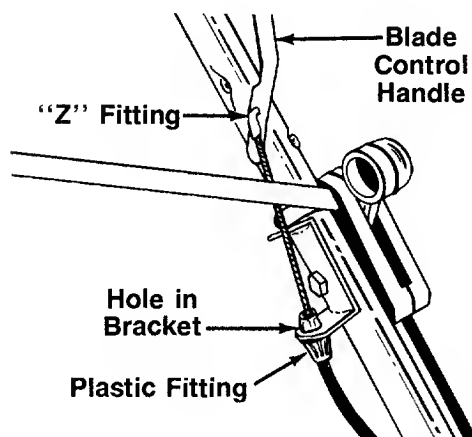

FIGURE 4.
1. The brake cable is attached to the engine, and has a "Z" fitting on the loose end. Route the brake cable above the drive cover, and to the inside and below the lower handle. Place end of cable through the hole in the bracket as shown in figure 4. Be careful not to bend or kink the cable at any time. Push the plastic fitting until it locks into the hole in the bracket.
2. Hook the "Z" end of the brake cable into the hole in the blade control handle from the inside to the outside as shown in figure 4.